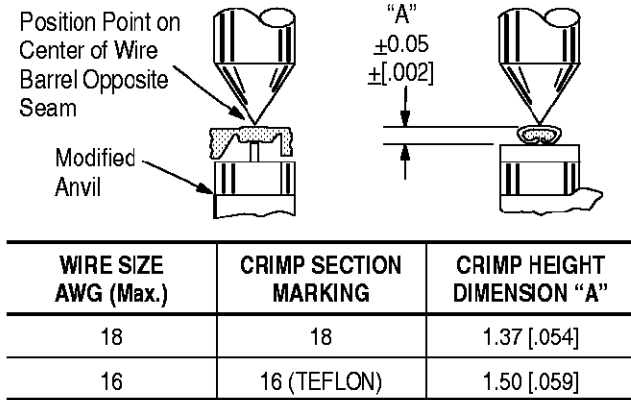

Figure 4
**NOTE** *This tool is provided with a crimp adjustment feature. Initially, the crimp height should be verified as specified in Figure 4. Refer to Section 6, CRIMP HEIGHT INSPECTION, and Section 7, CRIMP HEIGHT ADJUSTMENT, to verify crimp height before using the tool to crimp desired contacts and wire sizes.*
This inspection requires the use of a micrometer, with a modified anvil, as shown in Figure 4. A recommendation is the modified micrometer (Crimp Height Comparator RS-1019-5LP) available from:
1. Refer to Figure 4 and select a wire (maximum size) for each crimp section listed in the table.
3. Using the crimp height comparator, measure the wire barrel crimp height as shown in Figure 4. If the crimp height conforms to the dimensions provided in Figure 4, then the tool is considered dimensionally correct. If the crimp height does not conform to the dimensions provided, the tool must be adjusted. Refer to Section 7, CRIMP HEIGHT ADJUSTMENT.